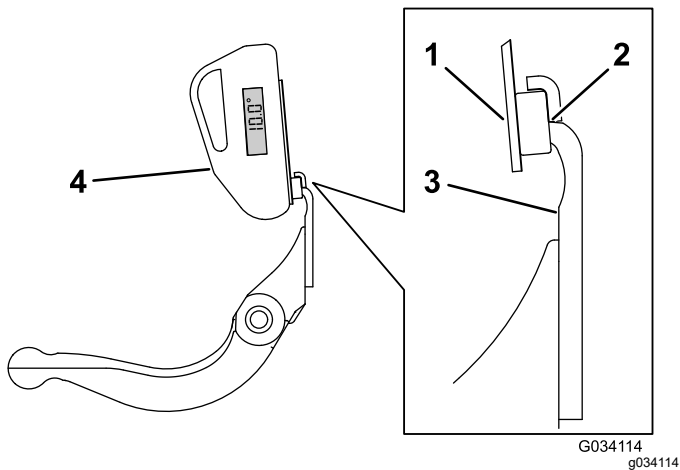

Figure 31
3. Place the angle-indicator mount on the edge of the bedknife so that the edge of the magnet mates with the edge of the bedknife (Figure 31).
4. Place the angle indicator on the mount as shown in Figure 31.